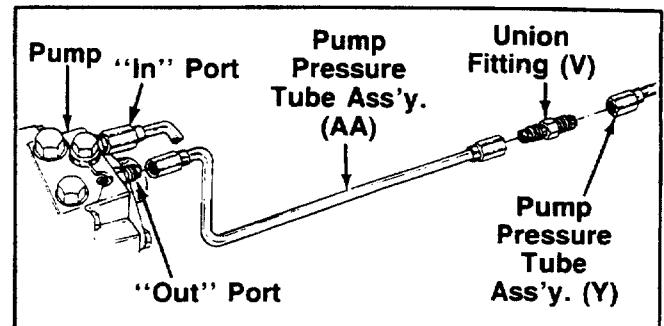

FIGURE 22.
14. Assemble the union fitting (V) to pump pressure tube assembly (AA) as shown in figure 22, and tighten.
15. Assemble the other end of the pump pressure tube assembly (AA) to pump ("Out" port) loosely. See figure 22.